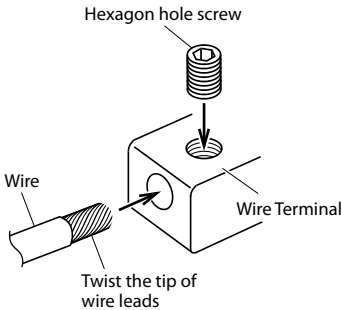

**Fig. 5**
- Remove the insulation from the ends of the wire leads by about 7 – 10 mm (9/32" – 13/32"). (Fig. 5)